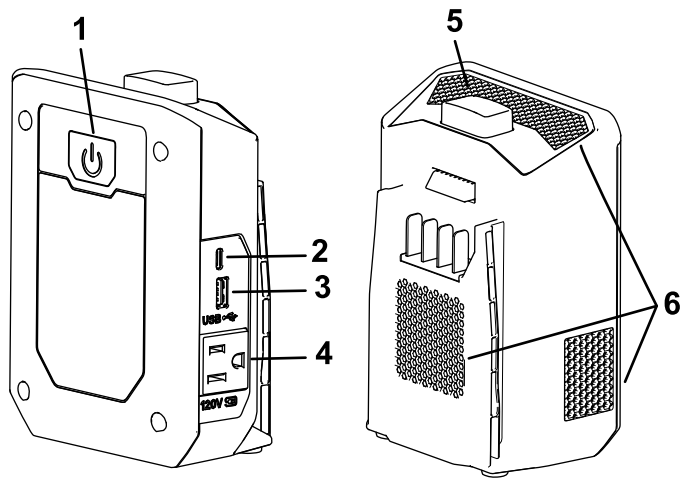

Figure 3
2. Press the power button on the back of the inverter to turn the inverter on, the LED lights up to solid green (Figure 3).